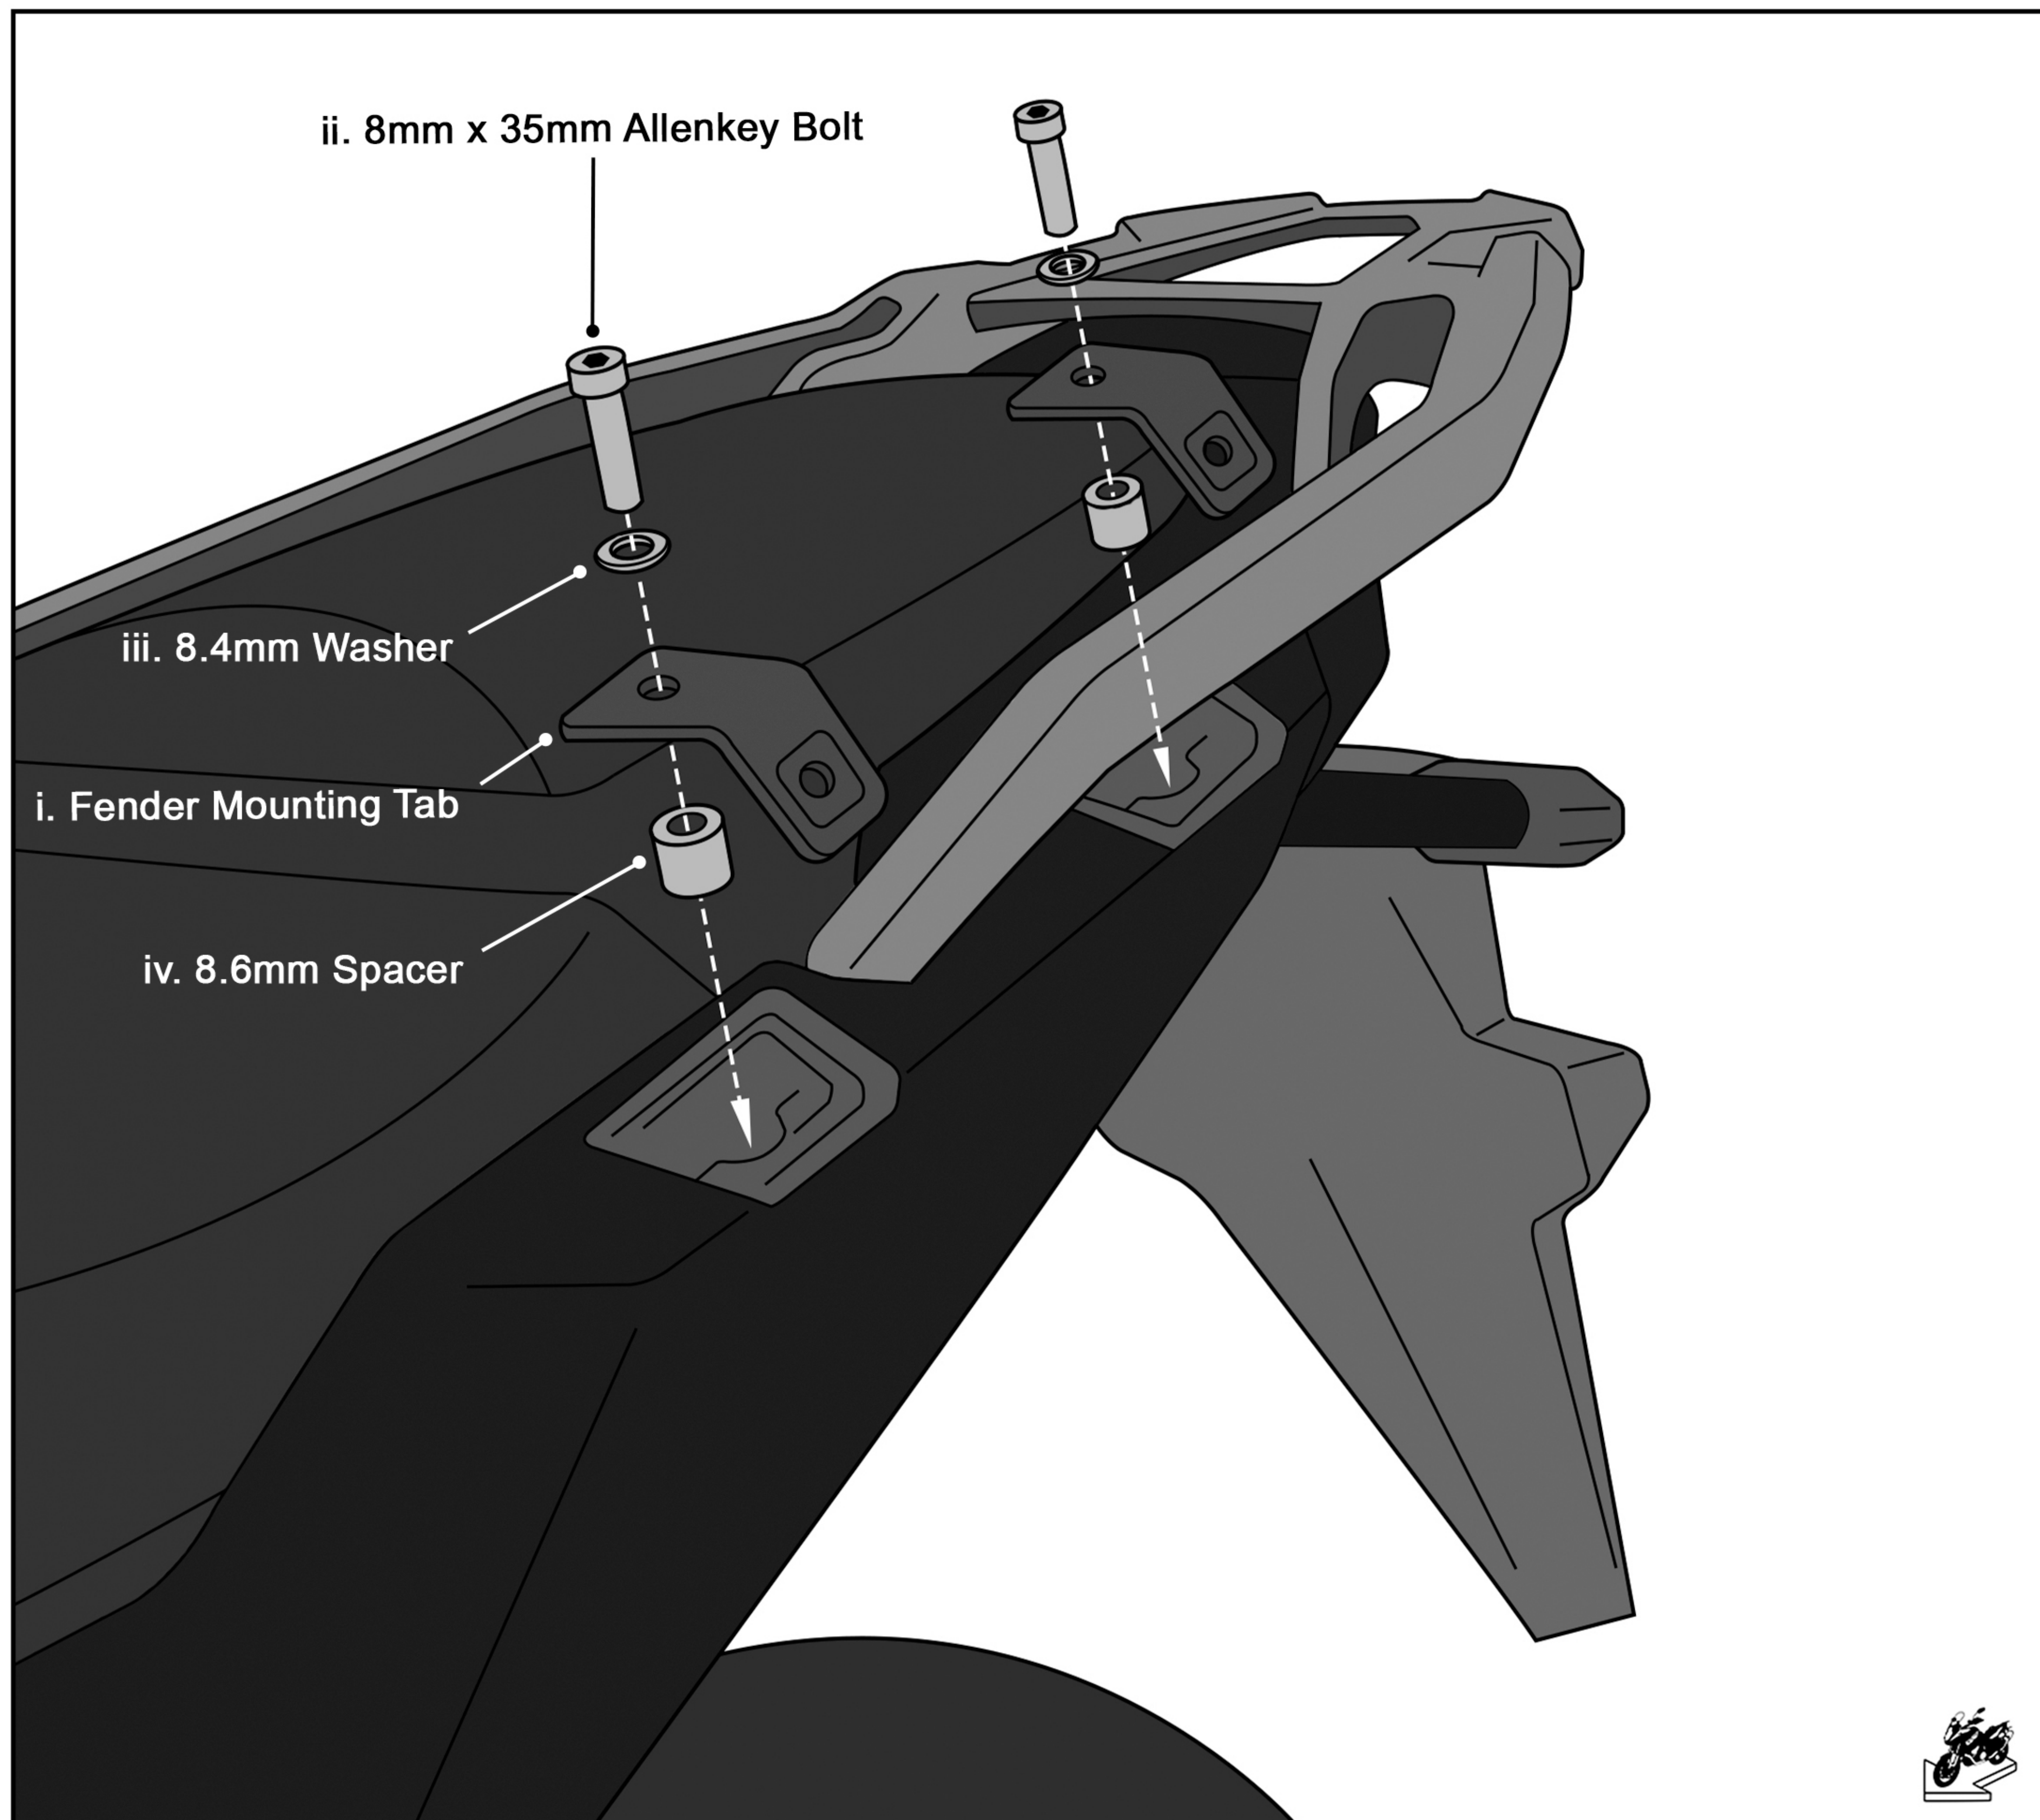

Fig 2. Installing Fender Mounting Tabs (I)
Install fender mounting tabs (I) on the motorcycle tail fender. Do not fully tighten yet. See Fig 2.